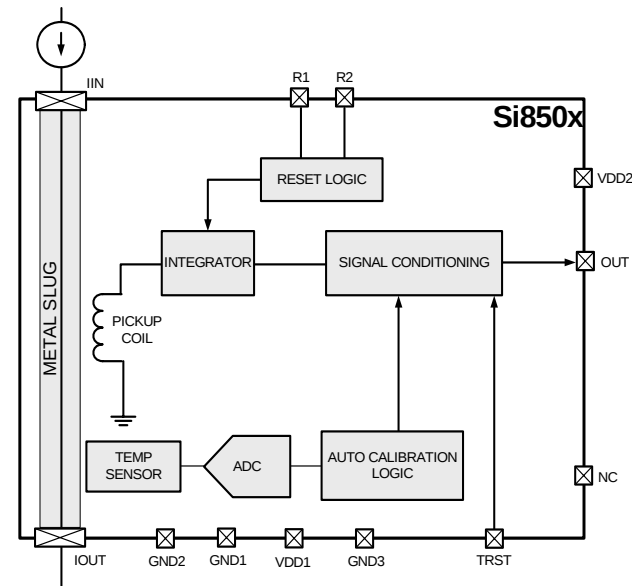
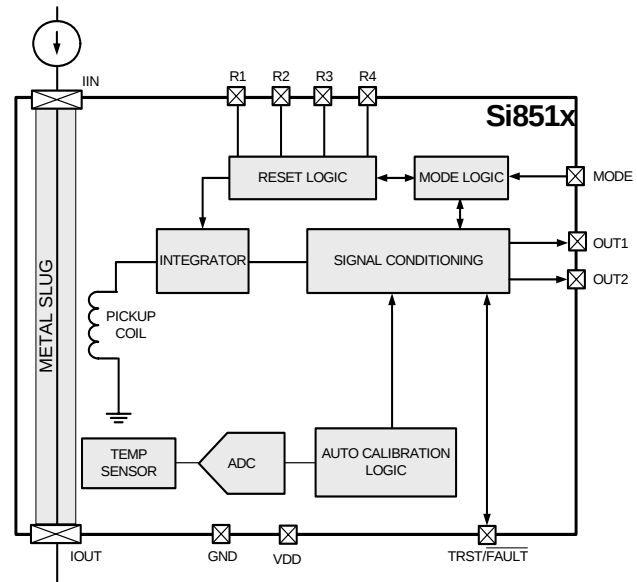

Figure 1. Si850x (Single Output) Block Diagram
Figure 2. Si851x (Ping Pong Output) Block Diagram
The Si85xx AC Current Sensor family of products mimic the functionality of a traditional current transformer (CT) circuit with burden resistor, diode and output filter, but offers enhanced performance and added capabilities. These devices use inductive current sensing and on-board signal conditioning electronics to generate a 2 V full-scale output signal proportional to the ac current flowing from the IIN to the IOUT terminals. As shown in Figure 1 and Figure 2, current flowing through the metal package slug induces a signal in the pickup coil on-board the Si85xx die. This signal is applied to the input of an integrator that re-constructs the ac current flowing from IIN to IOUT. On-board circuitry provides cycle-by-cycle integrator reset, and temperature and offset voltage compensation to achieve measurement accuracy to within $\pm 5\%$.